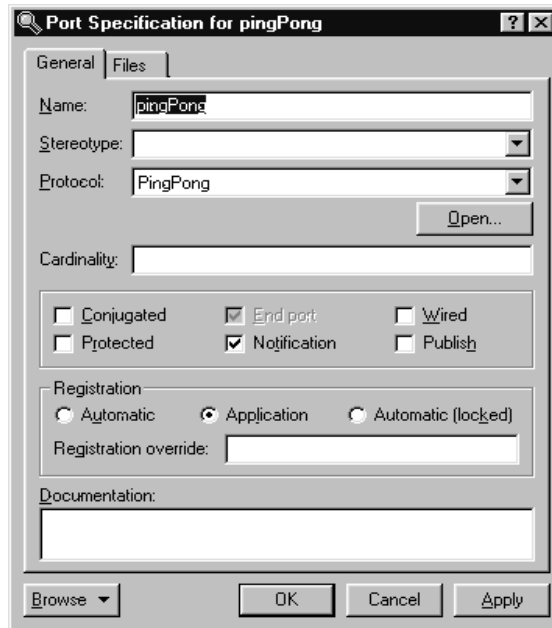

Figure 30 Changing port specifications for Ping
3. Uncheck the **Wired** option as shown in Figure 30.